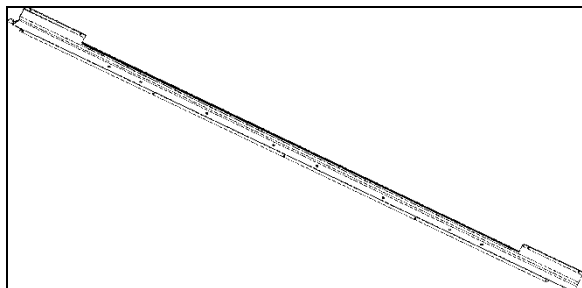

FIGURE 112: LED INDIRECT LIGHTING IN OVERHEAD COMPARTMENT
2. Using a Phillips head screwdriver, unscrew and remove the existing LED strip (FIGURE 112).